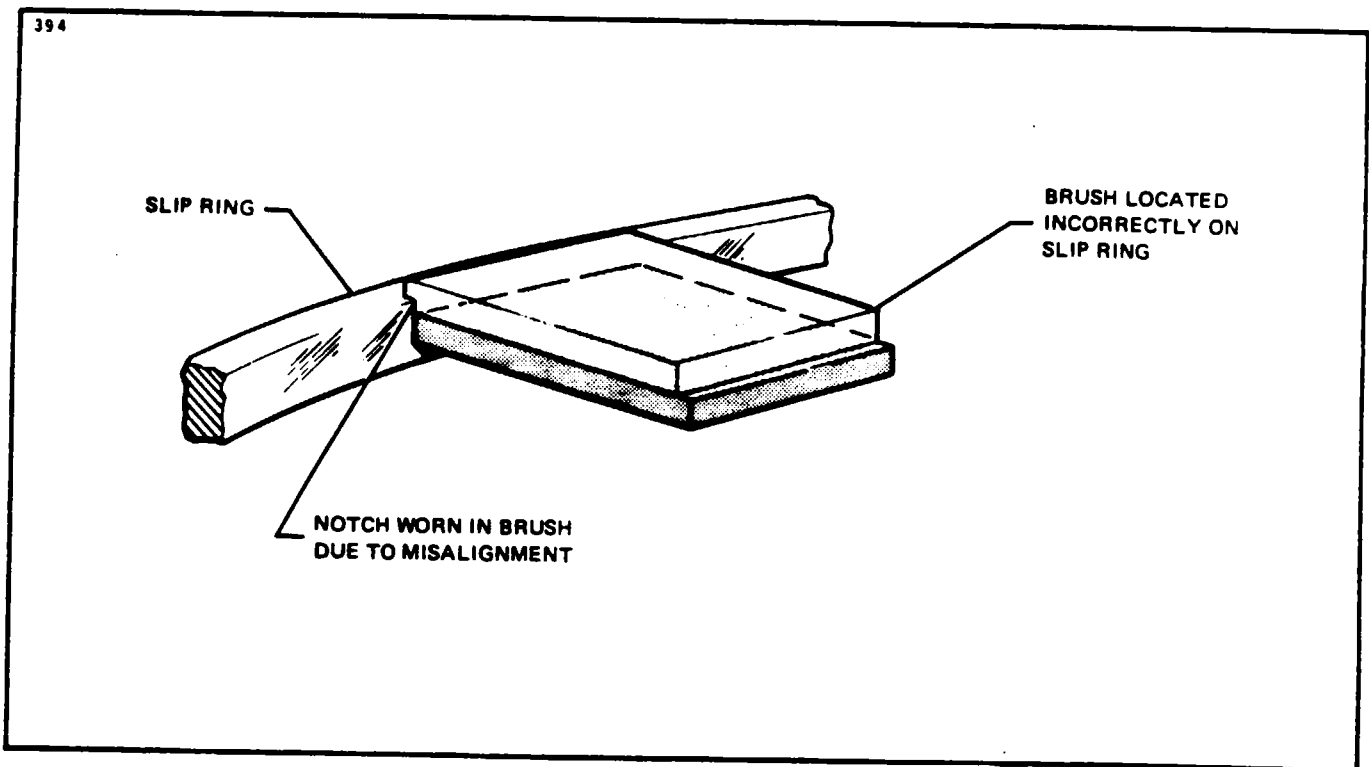

Figure 30-10. Centering of Brushes on Slip Rings
- A. Test that each brush rides fully on its slip ring over 360°. Figure 30-10 shows wear pattern if this condition is not corrected. If alignment is off, shim where brush block bracket attaches to engine back bone or pivot at support arm which is attached to generator idler pulley bracket.